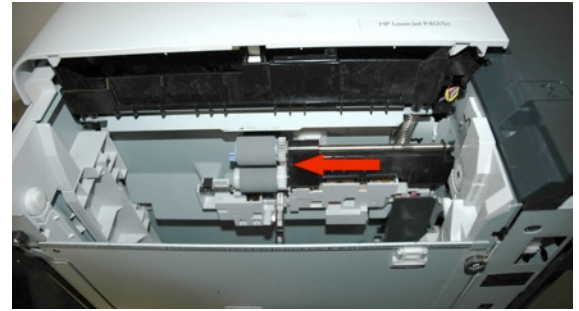

Fig. 3
- 2 Locate the feed roller on the underside of the printer. Pinch the blue clip and remove the feed roller from the shaft. (Fig. 3)